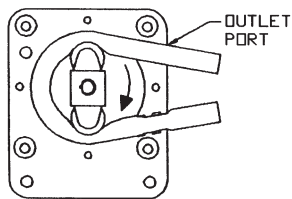

FIG. 4
9. Finally, insert the tubing into the outer port (Fig. 4), and replace the cover and screws.